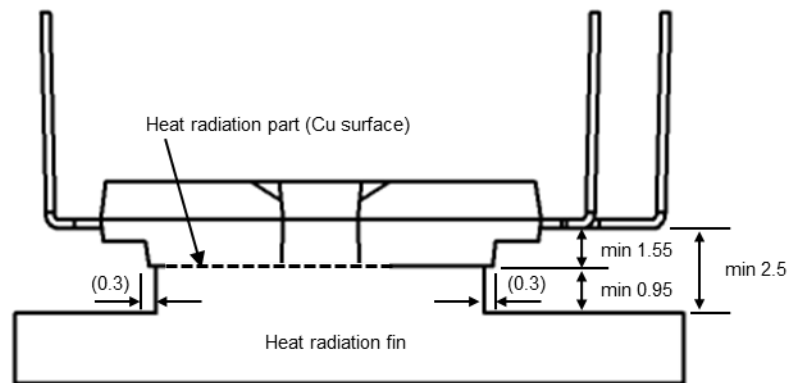

Fig.2-1-2 In the case of using convex fin (unit: mm)
- (1) V_{CC} The maximum voltage can be biased between P-N. A voltage suppressing circuit such as a brake circuit is necessary if P-N voltage exceeds this value.
- (2) $V_{CC(\text{surge})}$ The maximum rating of P-N surge voltage in switching state. If P-N voltage exceeds this voltage, addition of a snubber circuit or cutting down parasitic wiring inductance is necessary to absorb the surge under this voltage.
- (3) V_{CES} The maximum sustained collector-emitter voltage of built-in IGBT and FWDi.
- (4) $\pm I_C$ The allowable current flowing into collect electrode ($@T_C=25^\circ\text{C}$). Pulse width and period are limited due to junction temperature T_j .
- (5) T_j The maximum junction temperature rating is 150°C . But for safe operation, operating temperature range should be determined considering life time of power cycle and so on.
- (6) $V_{cc}(\text{prot})$ The maximum supply voltage for turning off IGBT safely in the case of an SC or OC fault. The power chip might be damaged if supply voltage exceeds this specification.
- (7) Isolation voltage Isolation voltage is the voltage between all shorted pins and copper surface of DIIPM. The maximum rating of isolation voltage of SLIMDIP is 2000Vrms. But if such as convex shape heat radiation fin will be used for enlarging clearance between outer terminals and heat radiation fin (2.5mm or more is recommended), it is able to correspond isolation voltage 2500Vrms. See Fig.2-1-2.